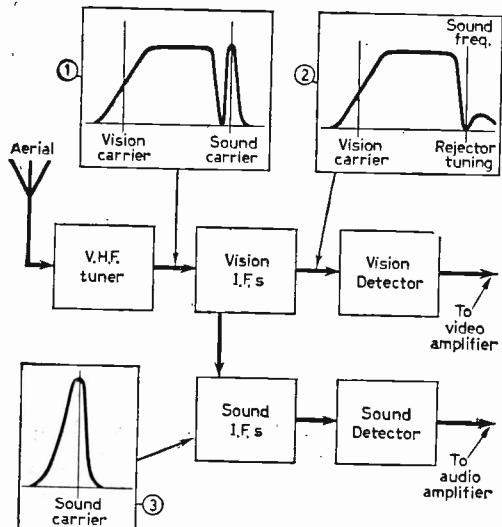

Fig. 3: Simple block diagram of a 405-line standard receiver, showing responses and signals.
the sound signals in the vision channel will fail to be attenuated and will arrive at the vision detector along with the vision signals. Since the vision detector is a non-linear device, the sound signals here modulate on the vision signals so that the video amplifier and picture tube are presented with vision signals—giving the picture—and also sound signals which are responsible for the sound-on-vision interference (see Fig. 3, Part 2).
On the 405-line standard, the prime cause of vision-on-sound—excepting overloading—is incorrect alignment of the sound i.f. transformers. Figure 3 gives an elementary block diagram of the pertinent sections of a 405-line standard set. The v.h.f. tuner, it will be recalled, delivers both sound and vision signals at i.f., the sound signals are rejected in the vision i.f. channel and the vision signals are kept out of the sound i.f. channel by the sharpness of the sound i.f. tuning. These three factors are shown at (1), (2) and (3) in Fig. 3.